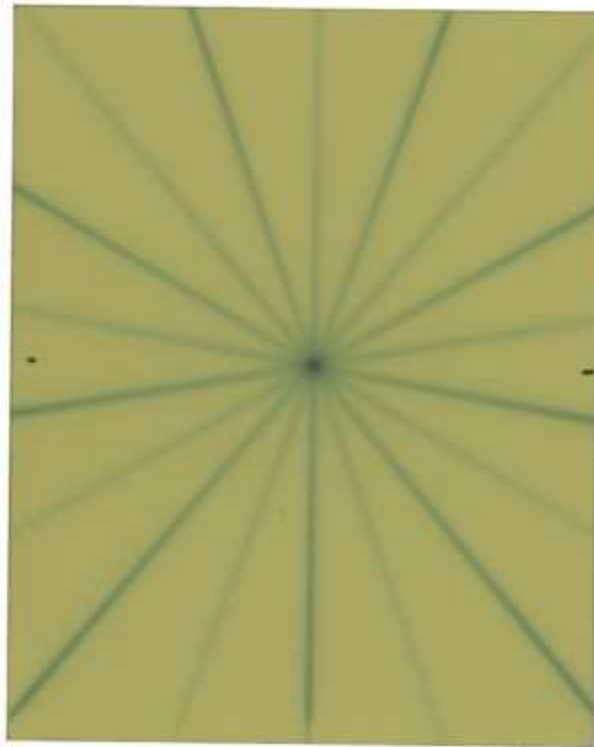

Figure 1: Gantry star shot
7. Separate the slabs. Take the one to which the film is attached and use a fine-tip pen, a ruler and the marks on the slab (see Step 4) transfer the transverse line indicating isocenter height to the edges of the film. Remove the film from the slab and proceed to Scanning and Star shot Image Analysis, Step D1. Note: The gantry star shot should look similar to Figure 1 Because the exposure source was closer to one end of the film than the other when each line was exposed each of the beam lines is darker at one end than the other.